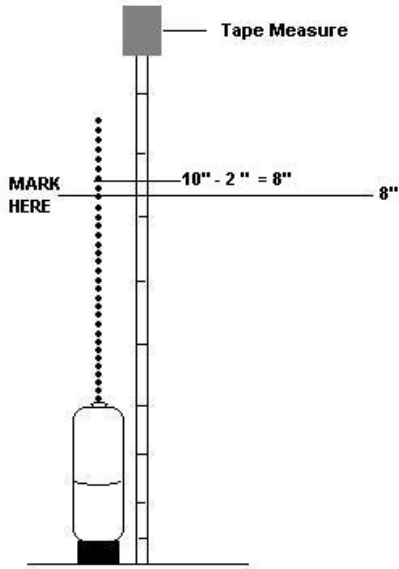

Fig. 2
3. Stand float on end on a flat work surface alongside a measuring tape and pull chain taut to desired measurement. (10") Subtract 2" and mark chain with marker at 8". See **Fig.2**.